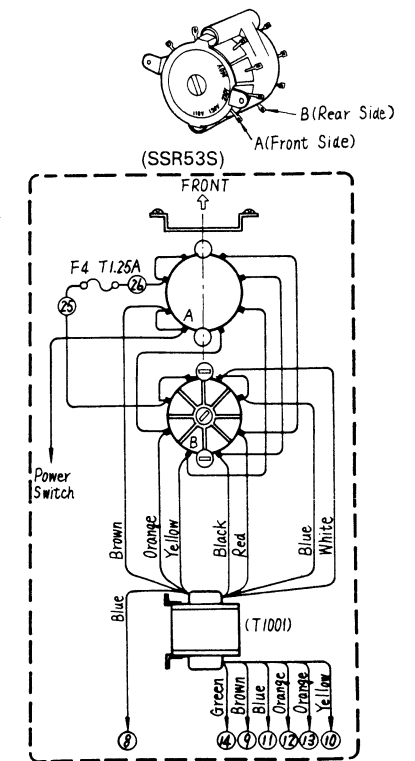

Fig. 11
2. When using the part number SSR53S, connect as shown in fig. 11.